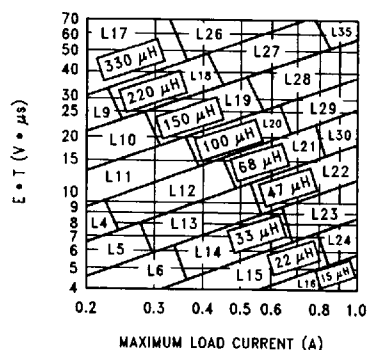

FIGURE 7. LM2598-ADJ
<p>Given:</p> <p>V_{OUT} = Regulated Output Voltage $V_{IN(max)}$ = Maximum Input Voltage $I_{LOAD(max)}$ = Maximum Load Current F = Switching Frequency (Fixed at a nominal 150 kHz).</p> <p>1. Programming Output Voltage (Selecting R_1 and R_2, as shown in Figure 1) Use the following formula to select the appropriate resistor values.</p> $V_{OUT} = V_{REF} \left(1 + \frac{R_2}{R_1} \right) \text{ where } V_{REF} = 1.23V$ <p>Select a value for R_1 between 240Ω and 1.5 kΩ. The lower resistor values minimize noise pickup in the sensitive feedback pin. (For the lowest temperature coefficient and the best stability with time, use 1% metal film resistors.)</p> $R_2 = R_1 \left(\frac{V_{OUT}}{V_{REF}} - 1 \right)$ <p>2. Inductor Selection (L1)</p> <p>A. Calculate the inductor Volt • microsecond constant $E \cdot T$ (V • μs), from the following formula:</p> $E \cdot T = (V_{IN} - V_{OUT} - V_{SAT}) \cdot \frac{V_{OUT} + V_D}{V_{IN} - V_{SAT} + V_D} \cdot \frac{1000}{150 \text{ kHz}} \text{ (V • μs)}$ <p>where V_{SAT} = internal switch saturation voltage = 1V and V_D = diode forward voltage drop = 0.5V</p> <p>B. Use the $E \cdot T$ value from the previous formula and match it with the $E \cdot T$ number on the vertical axis of the Inductor Value Selection Guide shown in Figure 7.</p> <p>C. on the horizontal axis, select the maximum load current.</p> <p>D. Identify the inductance region intersected by the $E \cdot T$ value and the Maximum Load Current value. Each region is identified by an inductance value and an inductor code (LXX).</p> <p>E. Select an appropriate inductor from the four manufacturer's part numbers listed in Figure 8.</p> <p>3. Output Capacitor Selection (C_{OUT})</p> <p>A. In the majority of applications, low ESR electrolytic or solid tantalum capacitors between 82 μF and 220 μF provide the best results. This capacitor should be located close to the IC using short capacitor leads and short copper traces. Do not use capacitors larger than 220 μF. For additional information, see section on output capacitors in application information section.</p> <p>B. To simplify the capacitor selection procedure, refer to the quick design table shown in Figure 3. This table contains different output voltages, and lists various output capacitors that will provide the best design solutions.</p> <p>C. The capacitor voltage rating should be at least 1.5 times greater than the output voltage, and often much higher voltage ratings are needed to satisfy the low ESR requirements needed for low output ripple voltage.</p> <p>Procedure continued on next page.</p>	<p>Given:</p> <p>$V_{OUT} = 20V$ $V_{IN(max)} = 28V$ $I_{LOAD(max)} = 1A$ $F = \text{Switching Frequency (Fixed at a nominal 150 kHz).}$</p> <p>1. Programming Output Voltage (Selecting R_1 and R_2, as shown in Figure 1) Select R_1 to be 1 kΩ, 1%. Solve for R_2.</p> $R_2 = R_1 \left(\frac{V_{OUT}}{V_{REF}} - 1 \right) = 1k \left(\frac{20V}{1.23V} - 1 \right)$ <p>$R_2 = 1k (16.26 - 1) = 15.26k$, closest 1% value is 15.4 kΩ. $R_2 = 15.4 k\Omega$.</p> <p>2. Inductor Selection (L1)</p> <p>A. Calculate the inductor Volt • microsecond constant ($E \cdot T$),</p> $E \cdot T = (28 - 20 - 1) \cdot \frac{20 + 0.5}{28 - 1 + 0.5} \cdot \frac{1000}{150} \text{ (V • μs)}$ $E \cdot T = (7) \cdot \frac{20.5}{27.6} \cdot 6.67 \text{ (V • μs)} = 34.8 \text{ (V • μs)}$ <p>B. $E \cdot T = 34.8 \text{ (V • μs)}$</p> <p>C. $I_{LOAD(max)} = 1A$</p> <p>D. From the inductor value selection guide shown in Figure 7, the inductance region intersected by the 35 (V • μs) horizontal line and the 1A vertical line is 100 μH, and the inductor code is L29.</p> <p>E. From the table in Figure 8, locate line L29, and select an inductor part number from the list of manufacturers part numbers.</p> <p>3. Output Capacitor Selection (C_{OUT})</p> <p>A. See section on C_{OUT} in Application Information section.</p> <p>B. From the quick design table shown in Figure 3, locate the output voltage column. From that column, locate the output voltage closest to the output voltage in your application. In this example, select the 24V line. Under the output capacitor section, select a capacitor from the list of through hole electrolytic or surface mount tantalum types from four different capacitor manufacturers. It is recommended that both the manufacturers and the manufacturers series that are listed in the table be used.</p> <p>In this example, through hole aluminum electrolytic capacitors from several different manufacturers are available.</p> <p>82 μF 35V Panasonic HFQ Series 82 μF 35V Nichicon PL Series</p> <p>Example continued on next page.</p>